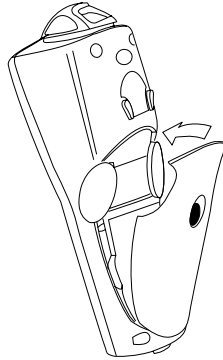

Figure 6-3. Replacing the Battery Compartment Door
4. Replace the battery compartment door (Figure 6-3).